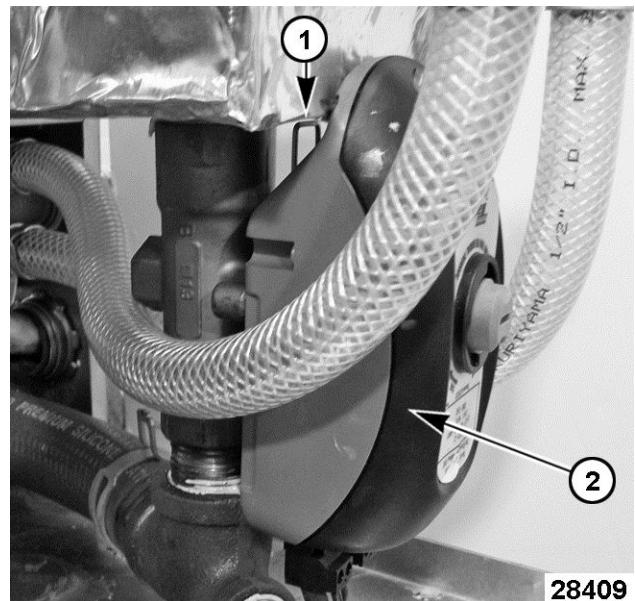

Fig. 65
3. Press in on spring catch [1] Fig. 65 and hold down to release from locking posts on the valve body then lift motorized control assembly [2] Fig. 65 off the valve.